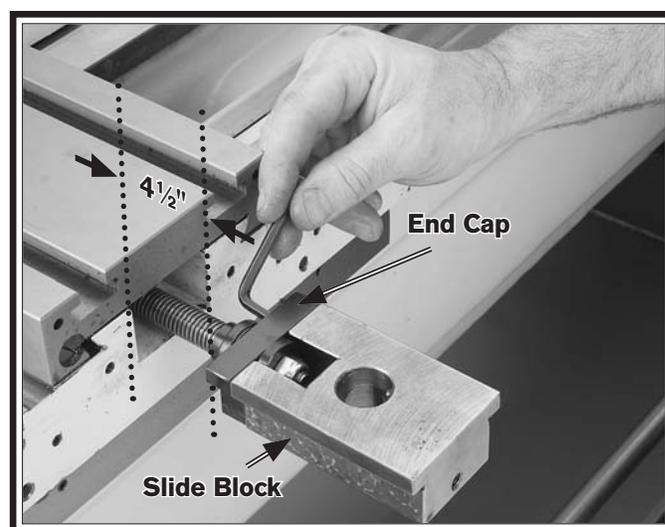

Figure 11. Slide block installation.
15. Using a 5mm hex wrench, secure the slide block onto the endcap with the two previously removed cap screws, as shown in **Figure 11**.
16. Pull or push the cross slide assembly so the center of the pivot pin bore is 4½" from the carriage face, as shown in **Figure 11**.